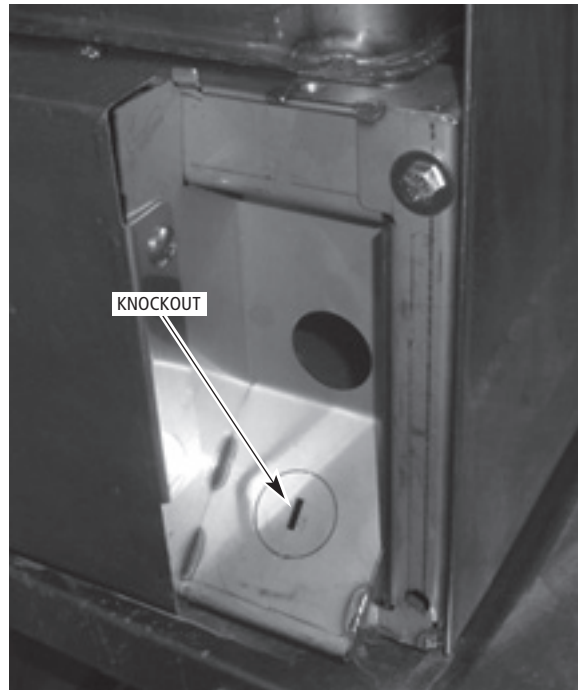

Figure 3
3. A hole for 1" trade size conduit is supplied at the lower right in the back of the machine (*Figure 3*). If necessary due to space requirements, remove the knockout and use a 45° fitting.